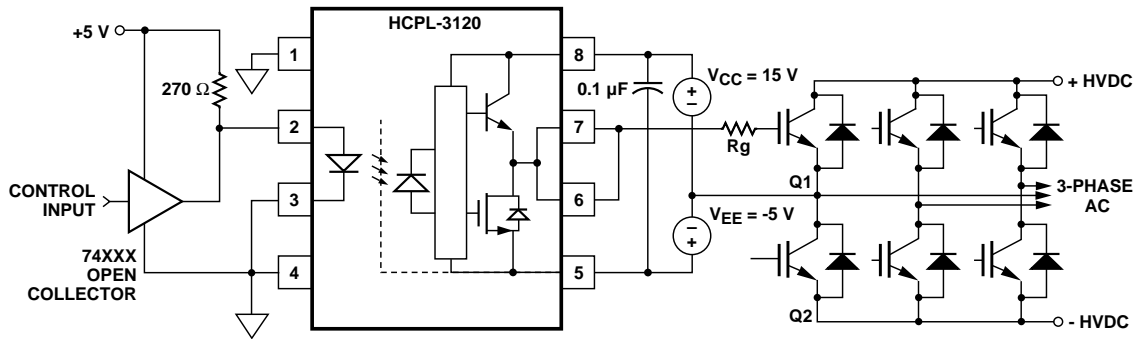

Figure 26. HCPL-3120 Typical Application Circuit with Negative IGBT Gate Drive.
Step 1: Calculate R_g Minimum from the I_{OL} Peak Specification. The IGBT and R_g in Figure 26 can be analyzed as a simple RC circuit with a voltage supplied by the HCPL-3120.
For the circuit in Figure 26 with I_F (worst case) = 16 mA, $R_g = 8 \Omega$, Max Duty Cycle = 80%, $Q_g = 500 \text{ nC}$, $f = 20 \text{ kHz}$ and $T_A \text{ max} = 85^\circ\text{C}$: